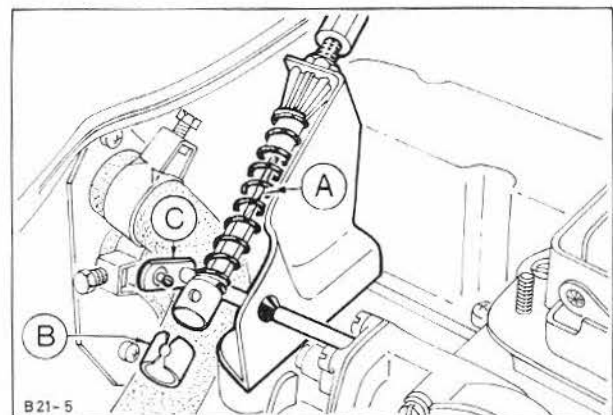

Fig. 72. Hook throttle cable to throttle linkage.
15. Attach throttle cable to bracket and hook into throttle linkage, Fig. 72. Reconnect and adjust choke cable, where fitted.